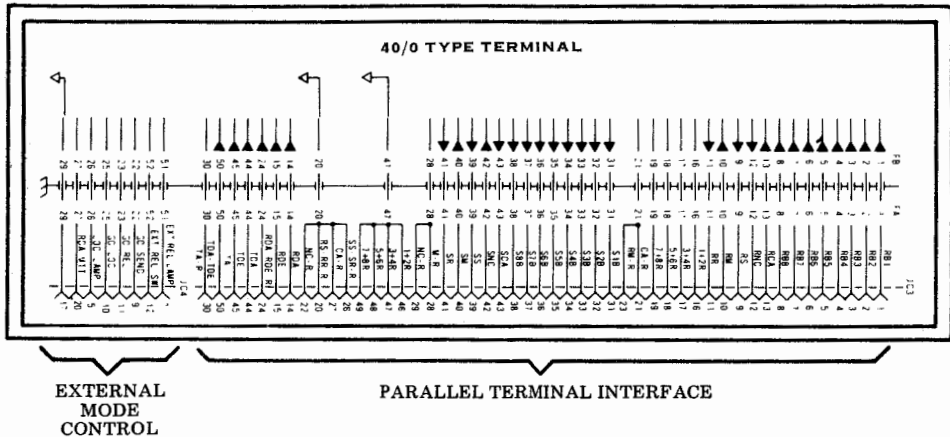

Fig. 17
6.01 Fig. 17 shows the PTI signal leads to the 40/0 type terminal.